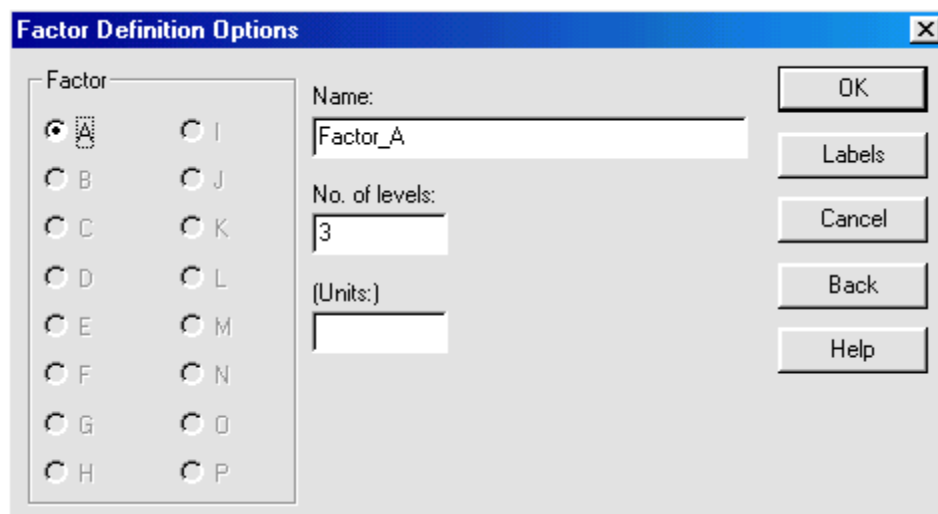

Figure 8-2. Factor Definition Options Dialog Box
3. Click OK to display the Factor Definition Options dialog box shown in Figure 8-2.